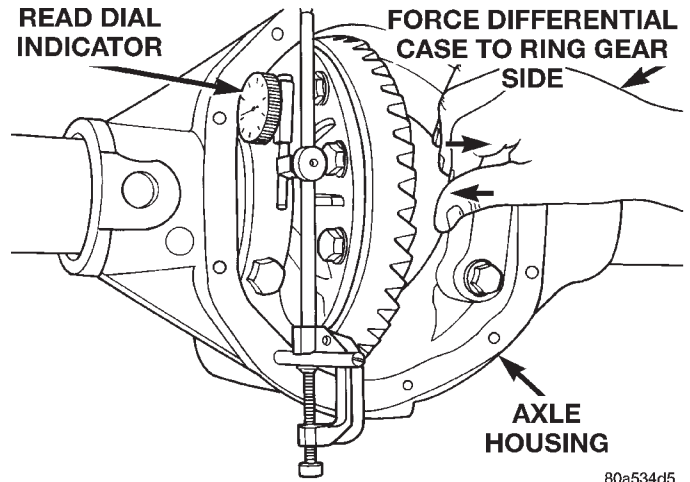

Fig. 66 Hold Differential Case and Read Dial Indicator
(12) Push and hold differential case to ring gear side of the axle housing (Fig. 66).
(13) Record dial indicator reading (Fig. 66).
(14) Add 0.006 in. (0.152 mm) to the zero end play total. This new total represents the thickness of shims to compress, or preload the new bearings when the differential is installed.